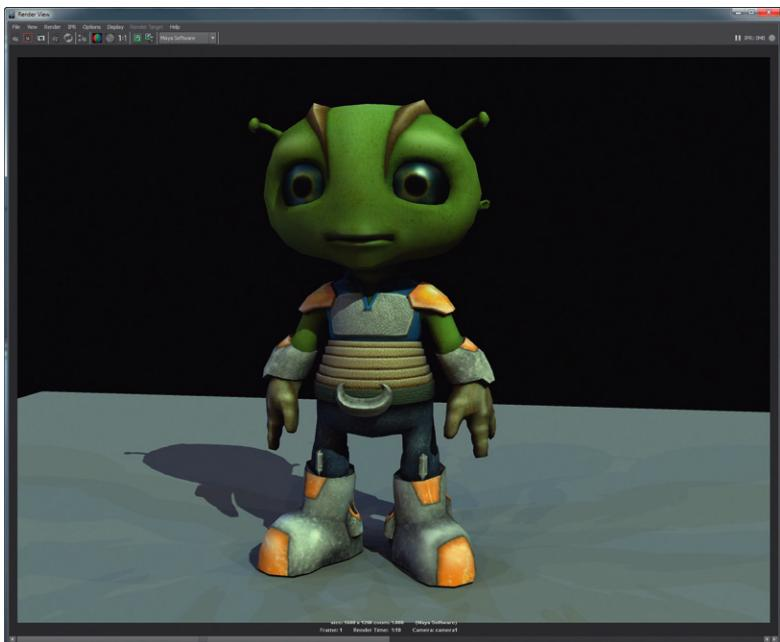

FIG 7.57 Further group tweaks.
Step 15: Tweak as desired. Now that there are the instruments to fill out the illumination, and you know how to batch adjust things like the intensity, you can turn the fill lights up or down as desired. My final tweaked solution (which included turning the cool side's intensity up just a bit, and adding just a bit of green to the Key Light to bring out the green in the skin) is shown in Fig. 7.57.